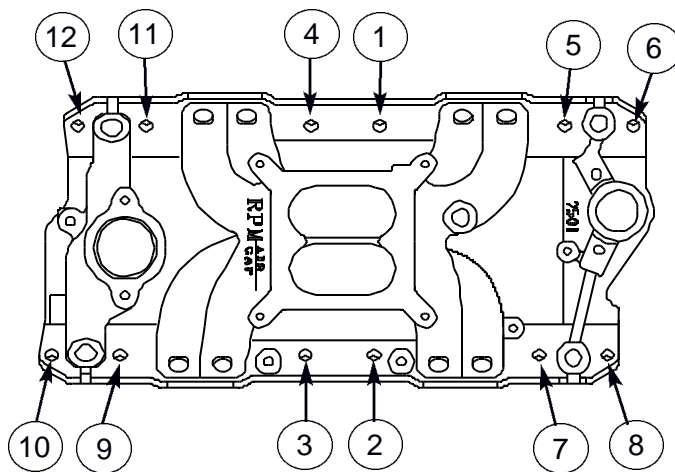

Figure 1—Intake Manifold Tightening Sequence
- **MANIFOLD TORQUE**—Torque all manifold bolts circled in Figure 1 to 25 ft/lbs. See Figure 1 for proper sequence.